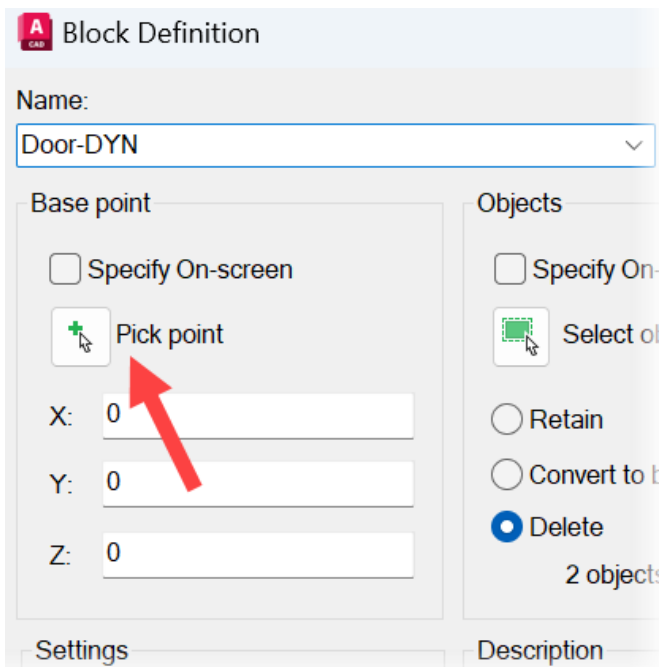

Figure 11.3: The Pick point icon in the Block Definition dialog box
3. Click on the **Pick point** icon in *Figure 11.3*.